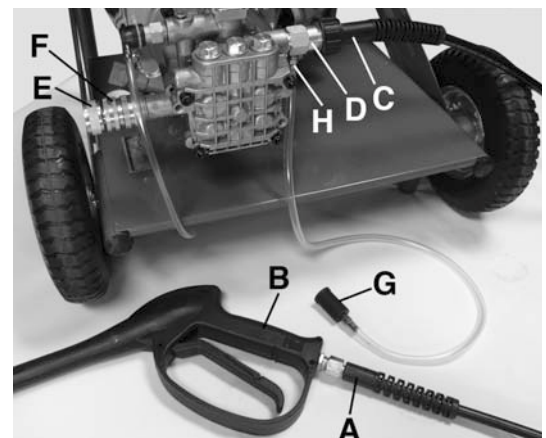

Figure 3
Next install the hose (A) Fig.3 to the wand (B) and install the other end of the hose (C) Fig.3 to the pump outlet (D) as shown in Fig.3. It is recommended to install Teflon tape on the threads to prevent water leakage.
Install the quick connect coupling (E) Fig.3 to the water hose inlet (F). It is recommended to install Teflon tape on the threads to prevent water leakage. Then install the detergent injector tube (G) over the detergent siphon fitting (H).
To set-up the detergent injector, install it to the siphon injector fitting on the pump as described in assembly instructions Fig.3. Then follows these instructions;